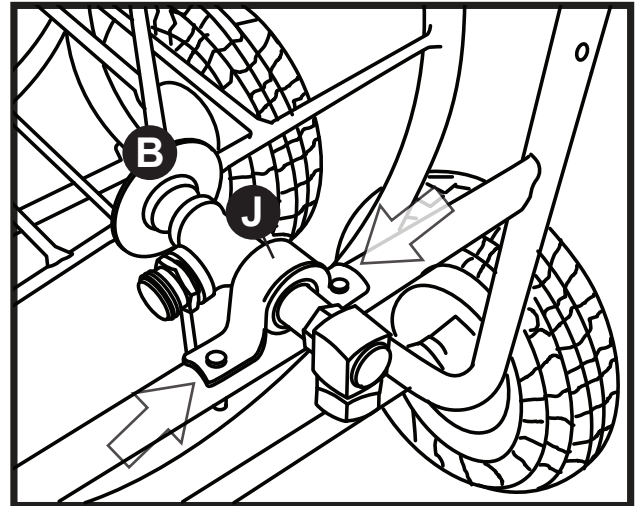

FIGURE 6
6. Place the spool (B) on the frame so the U-bushings (J) are oriented over the holes on the frame. **Figure 6**